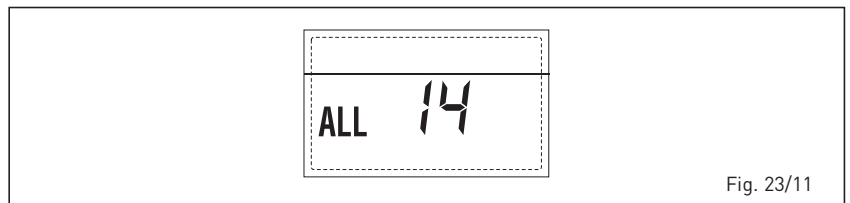

Fig. 23/11
- **“ALL 15” FAN ERROR (fig. 23/12)**